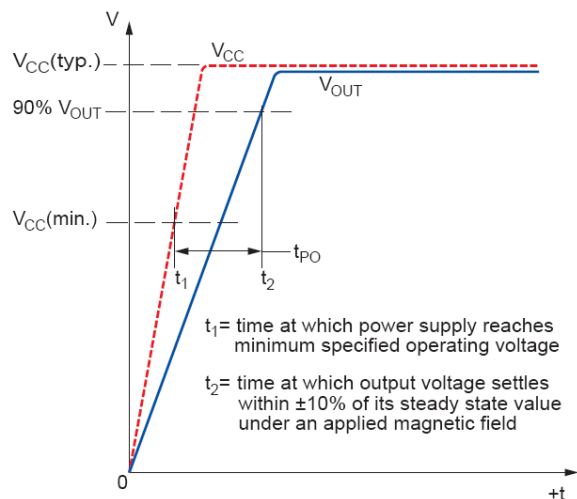

Figure 39: Power-On Time ( $t_{PO}$ )
**Power-On Time ( $t_{PO}$ ).** When the supply is ramped to its operating voltage, the device requires a finite time to power its internal components before responding to an input magnetic field. Power-on time,  $t_{PO}$ , is defined as the time it takes for the output voltage to settle within  $\pm 10\%$  of its steady-state value under an applied magnetic field, after the power supply has reached its minimum specified operating voltage,  $V_{CC(min)}$ , as shown in Figure 39.